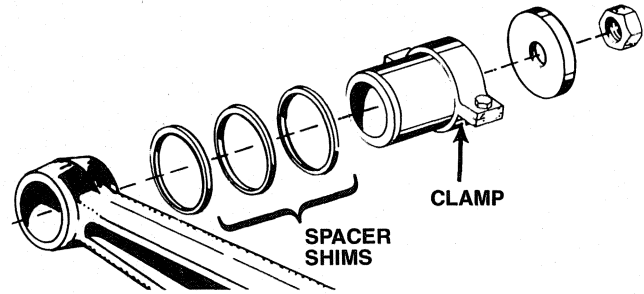

FIGURE 5
**Note:** Spacer Shims ( $\frac{1}{8}$ " thick [Part No. 302401]) can be ordered separately and used as shown in Figure 5. The shims are stacked as required to correctly space the bushing for correct centering.
1. Attach and wrench tighten the Clamp (Item 8) onto the bushing as shown in Figures 5, 6 and 7. This clamp compresses the rubber between the inner and the outer sleeve to allow proper positioning of the tooling.